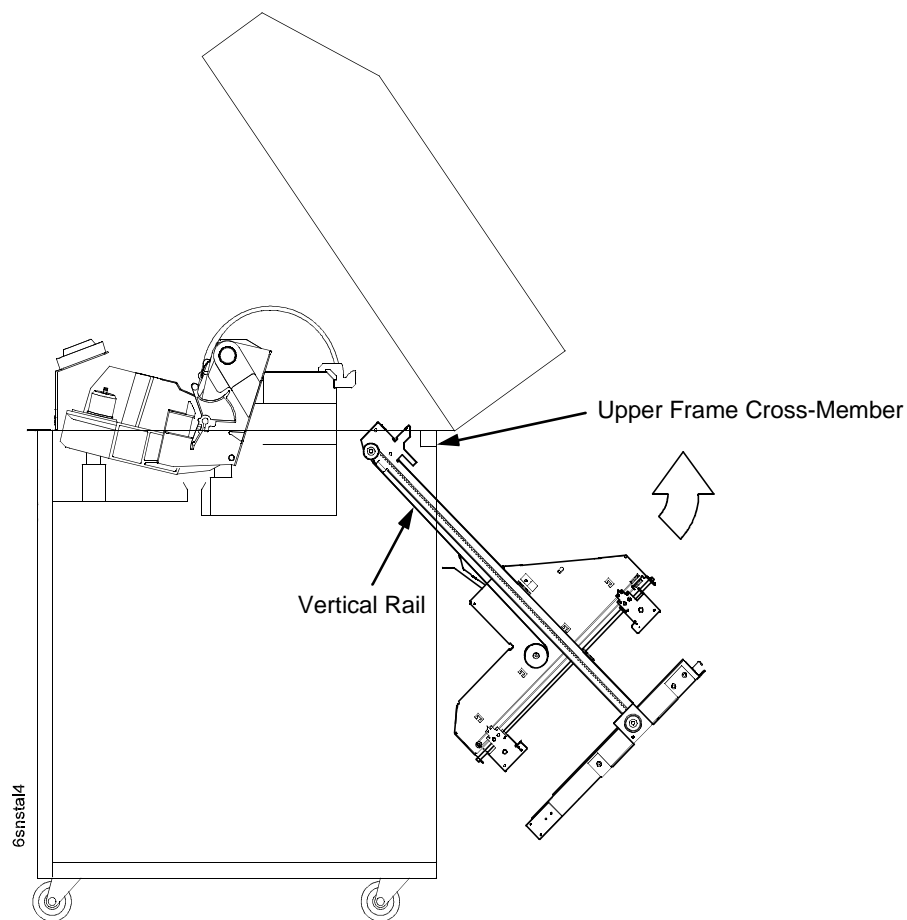

Figure 83. This figure shows how to remove the stacker assembly from the rear of the printer cabinet.
15. Slide the entire stacker assembly slightly to the right to clear the air exhaust duct. Tilt the vertical rails toward the front of the printer until they clear the upper frame cross-member. Slide the stacker assembly to the rear and angle it out of the cabinet, as shown in Figure 83.